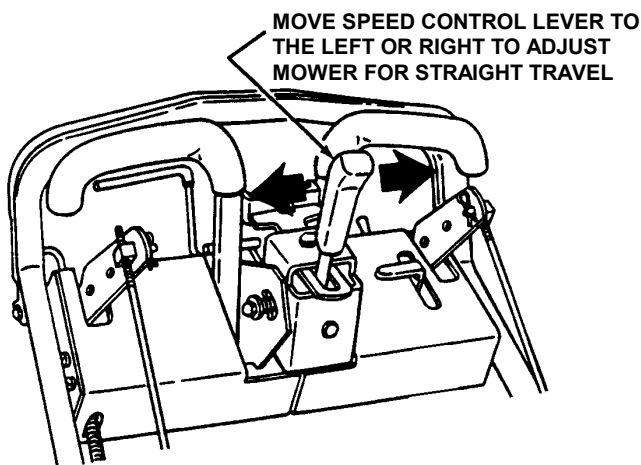

FIGURE 3.5
6. Proceed to go forward while allowing the machine to travel in a straight line. If the machine tracks towards the LEFT or RIGHT, it can be brought back to a straight path by moving the Speed Control Lever in the desired direction of travel. See Figure 3.5.
8. Proceed to go forward while allowing machine to travel in a straight line. If the machine has a tendency to track towards the LEFT or RIGHT, it can be brought back to a straight path by moving Speed Control Lever in the desired direction of travel. See Figure 3.5.